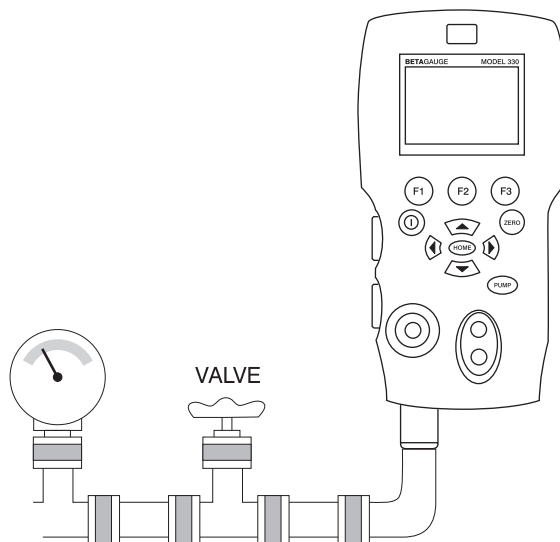

Figure 5
1. The BetaGauge 330 is supplied with a special low volume calibration hose kit to facilitate faster pumping to pressure and quick pressure stabilization. the kit also comes with the required "quick-fit" hose connectors and a BSP adapter for non-NPT applications. It is highly recommended that this type of hose is used to achieve the best performance of the product. Once the fittings are installed and the calibrator is connected to the unit under test (UUT) the calibrator is ready for use. Figure 5 shows a typical setup.